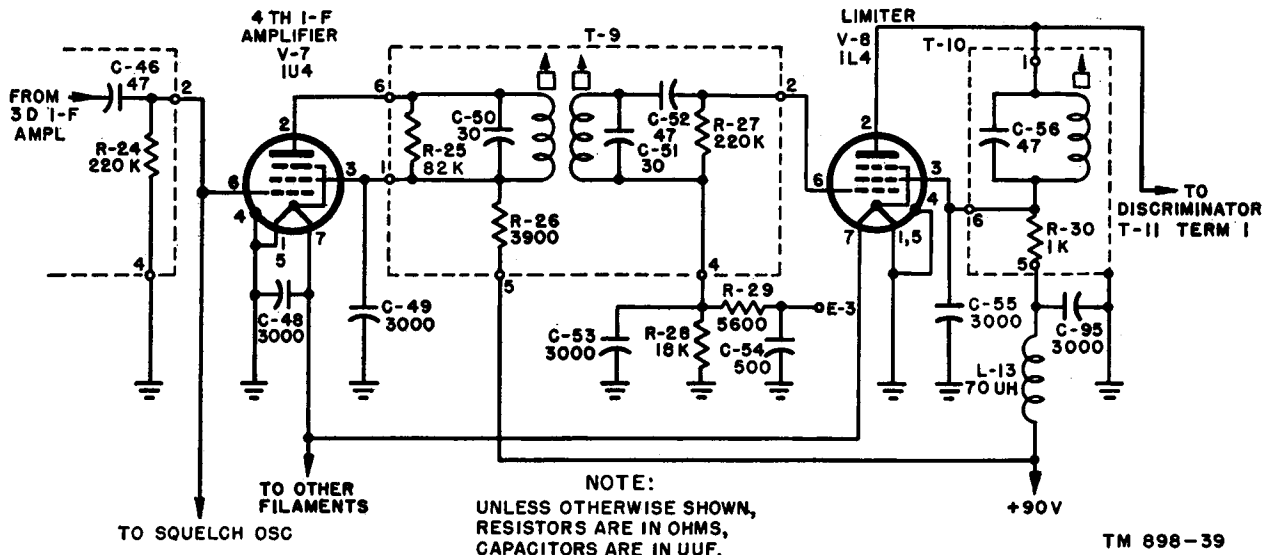

Figure 14. Fourth i-f amplifier and limiter circuits, functional diagram.
d. **FOURTH I-F AMPLIFIER V-7** (fig. 14). The fourth i-f amplifier stage V-7, a type 1U4 pentode, is identical in circuit arrangement and component values to the first three stages.
- (2) The plate circuit is tuned to resonance at 4.3 mc by T-9 (fig. 14). The primary circuit includes the plate coil, fixed tuning capacitor C-50, and damping resistor R-25. The secondary tuned circuit includes the grid coil of V-8 and fixed tuning capacitor C-51. The output of the fourth i-f amplifier stage is coupled through coupling capacitor C-52 to the grid circuit of the limiter stage V-8. C-52 serves also as a d-c grid current blocking capacitor. As in the case of the preceding stages, alinement of the stage is accomplished by adjusting the iron dust cores of the tuning coils.
- (3) Plate and screen voltages are applied through voltage-dropping resistor R-26, which is bypassed for i-f signals by capacitor C-49. The filament is bypassed for intermediate frequency by C-48.
- (4) A portion of the d-c voltage developed by grid current rectification in the grid circuit of the fourth i-f amplifier V-7, is applied through R-68 to squelch tube V-11 as bias for the squelch oscillator (par. 28). A-c noise and/or signal voltages routed through R-68 to V-11 are bypassed to ground by capacitor C-78 and therefore have relatively little effect on the operation of V-11.
23. Limiter Stage V-8 (fig. 14)